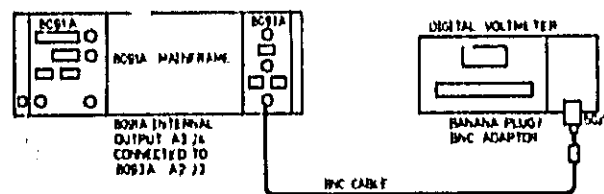

Figure 5-2.
1. Connect equipment as shown in Figure 5-2.